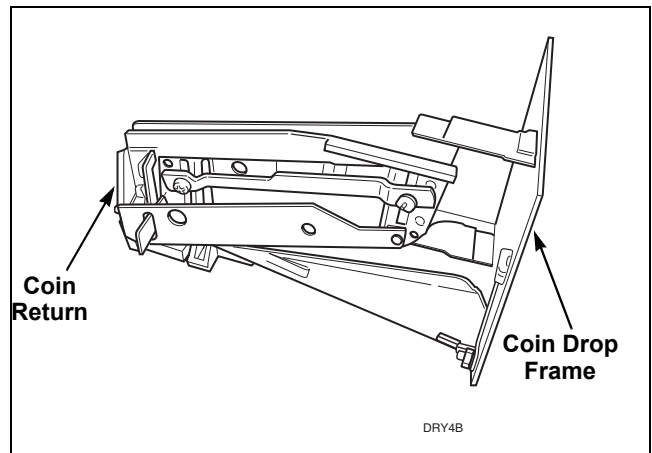

Figure 20
- g. Remove coin return from coin drop frame. Refer to *Figure 20*.